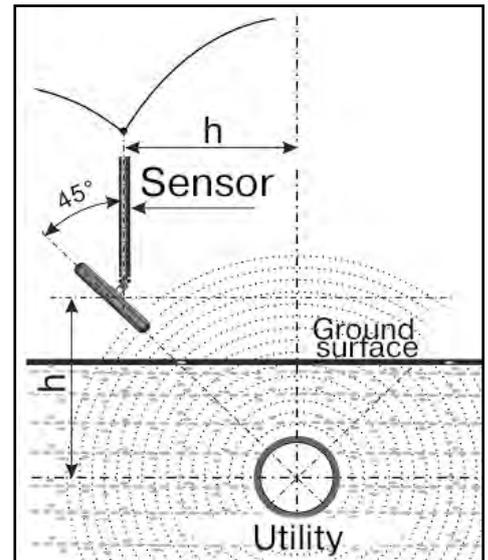

Fig. 7.1
2. Fix the sensor antenna at a 45 angle to the ground surface, minimum of the signal is observed at a distance from the point «above the route», equal to the depth of the utilities, when the antenna axis intersects the axis of the route. This is the indirect method of measuring the depth of utility (**fig. 7.1**)